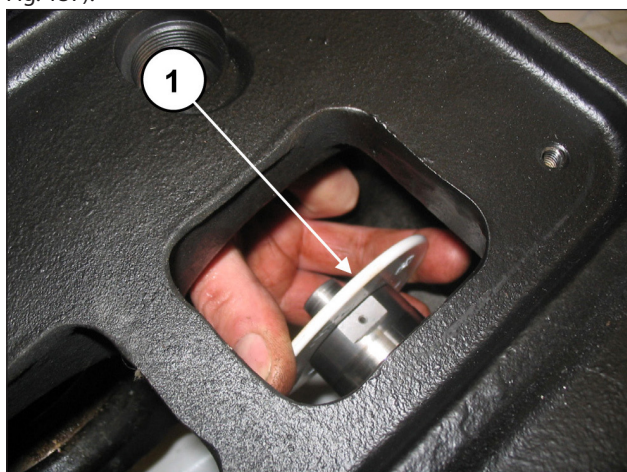

Fig. 137
Slip the spray-guard rings off the piston heads (pos. ①, Fig. 137).